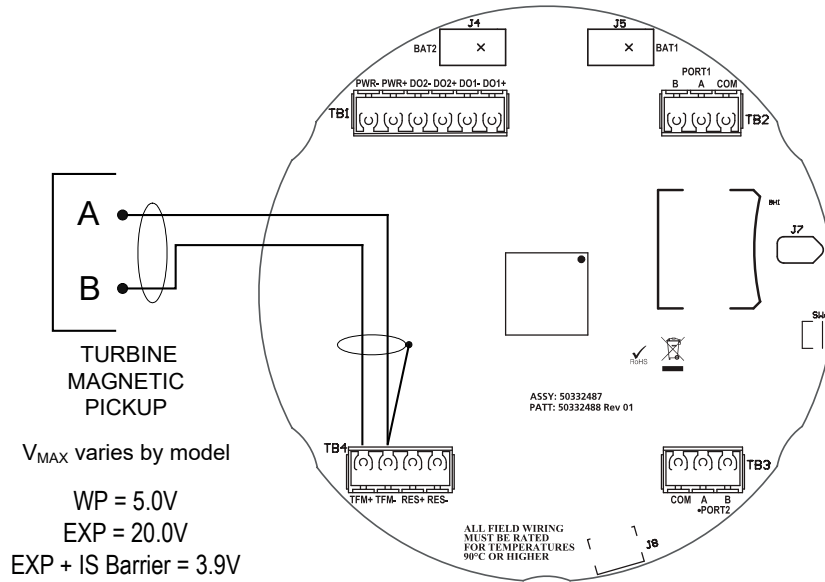
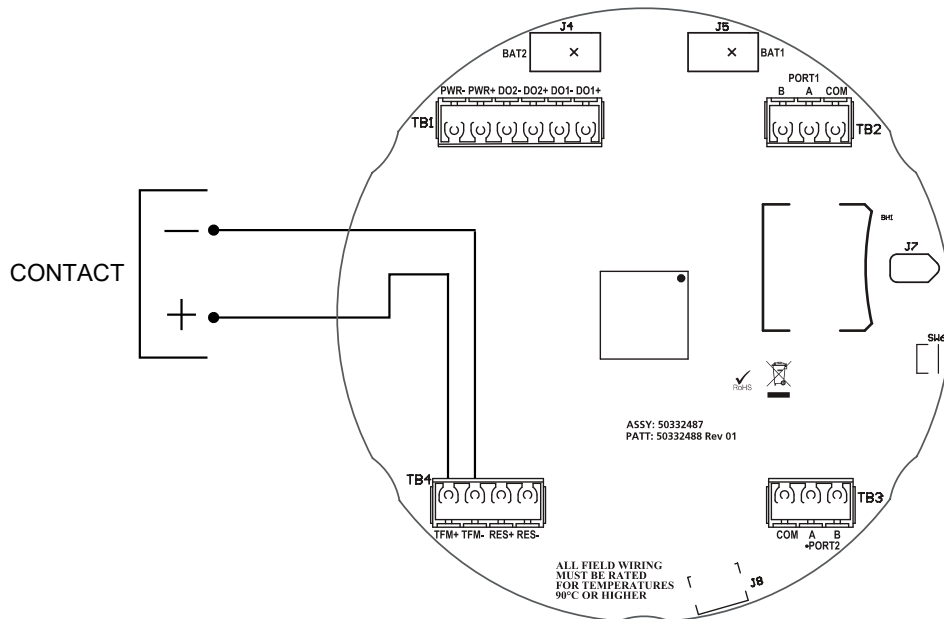

Figure 2.12—Flowmeter input wiring
Figure 2.14—Contact input wiring
5. Connect the flowmeter or pulse input wiring to terminal block TB4. See Figure 2.12 to Figure 2.14, pages page 43 through page 44.